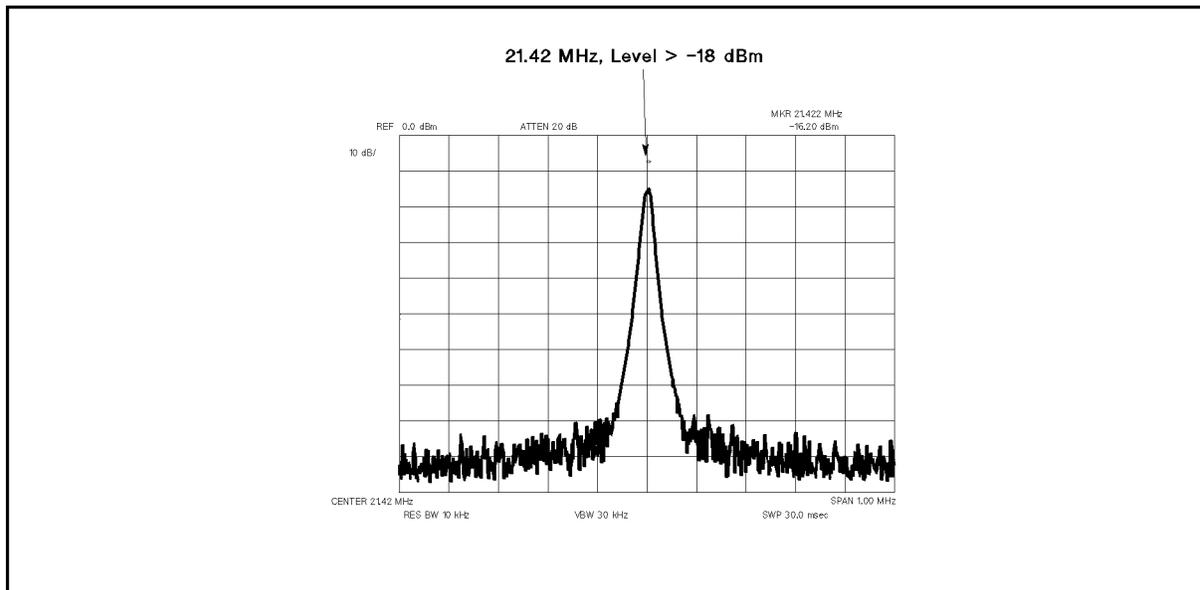

Figure 7-14. Typical 21.42 MHz Signal
- f. Check that the frequency is 21.42 MHz and the level is higher than -18 dBm. The displayed trace should be as shown in Figure 7-14.